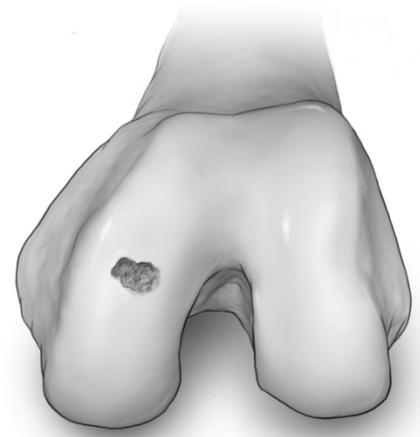

Fig. 1a
**Step 1:** Perform a parapatellar arthrotomy, and retract the patella to expose the condyle. Identify the defect on the condyle (Fig. 1a), and select a cutter/guide such that the cutter/guide covers the entire defect.